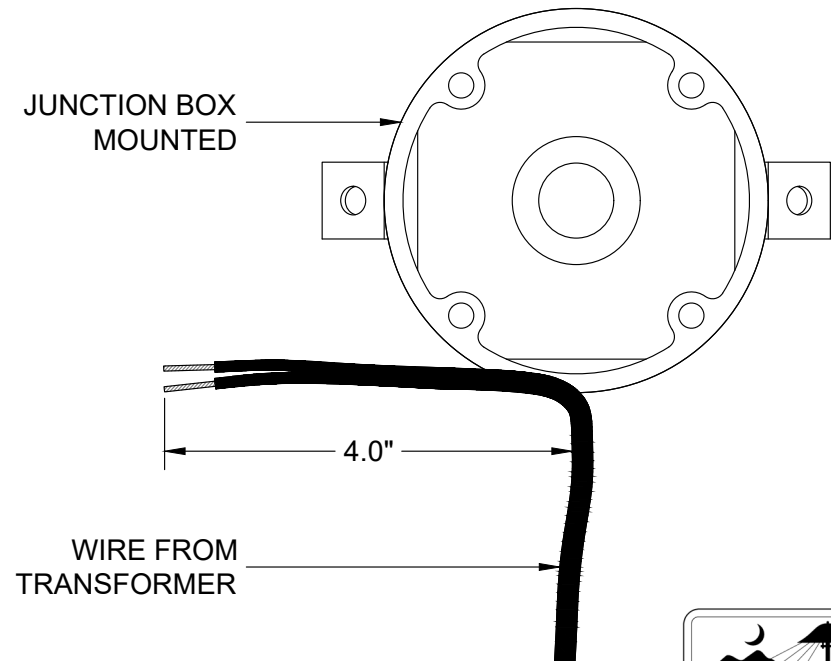

Figure 2
5. Run landscape lighting cable or round weatherproof cord (such as SJ, SJO, SJOOW) up the tree to the Box. Use stainless steel cable clamps and screws (by others) to secure the supply wires to the tree. Mark wires where they first contact the Box and cut them 4" (100 mm) longer. Strip 1/2" (12 mm) of insulation off the ends of the wires. (Figure 2) Repeat for opposite side if the wiring is to continue to another fixture farther up the tree.